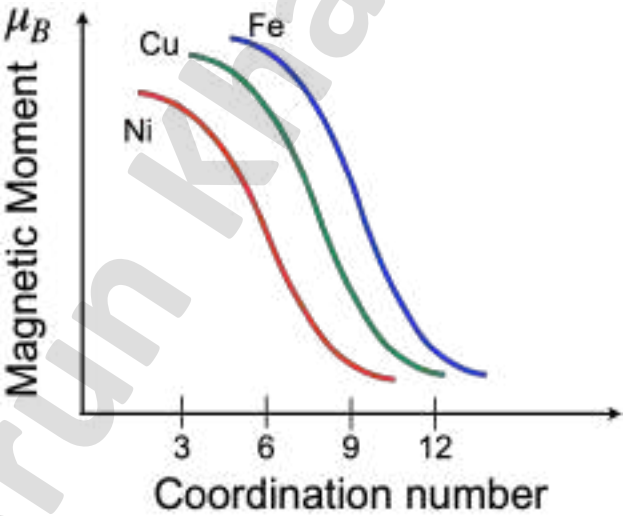

Fig. 21: Magnetic moment Vs Coordination number
- Fig. 21 shows dependance of magnetic moment on coordination number. As coordination number increases the magnetic moment decreases. Small clusters have lower coordination number hence magnetic moment of a very small cluster is more than bulk material.